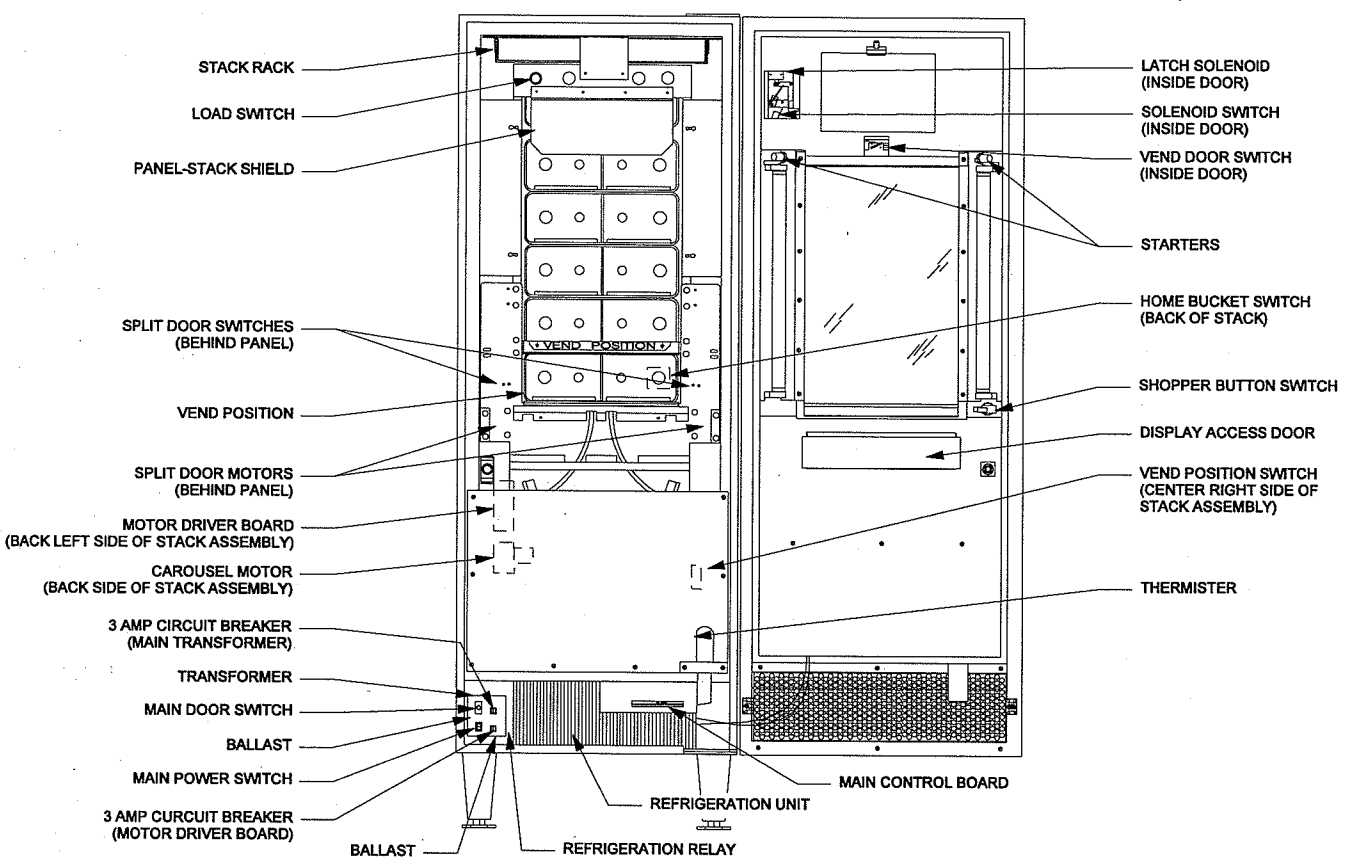

Figure 10. Component Locations
This section will describe the operation or function of various components within the structure of the Menu Mart II. See Figure 10 for the position or location of the components described. During normal operation of the Menu Mart II the controller will monitor the position and sequence of operation of these components. Any electronic failures detected are recorded by the controller and displayed in the readout on the front of the outer door. Refer to the Error Codes section for further information:
2. If a cold shield covers the bottom of the stack assembly, remove the nine screws holding it and the harness shroud. Set aside. See Figure 10.